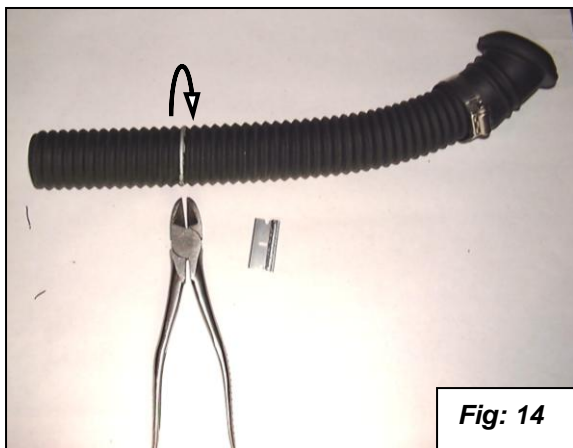

Fig: 14
16. Cut the hose with a wire cutter and a razor blade. First cut the wire on the line you marked then start on the bottom of the wire and wind your way up and around with the razor blade to carefully cut the hose. See figure 14.